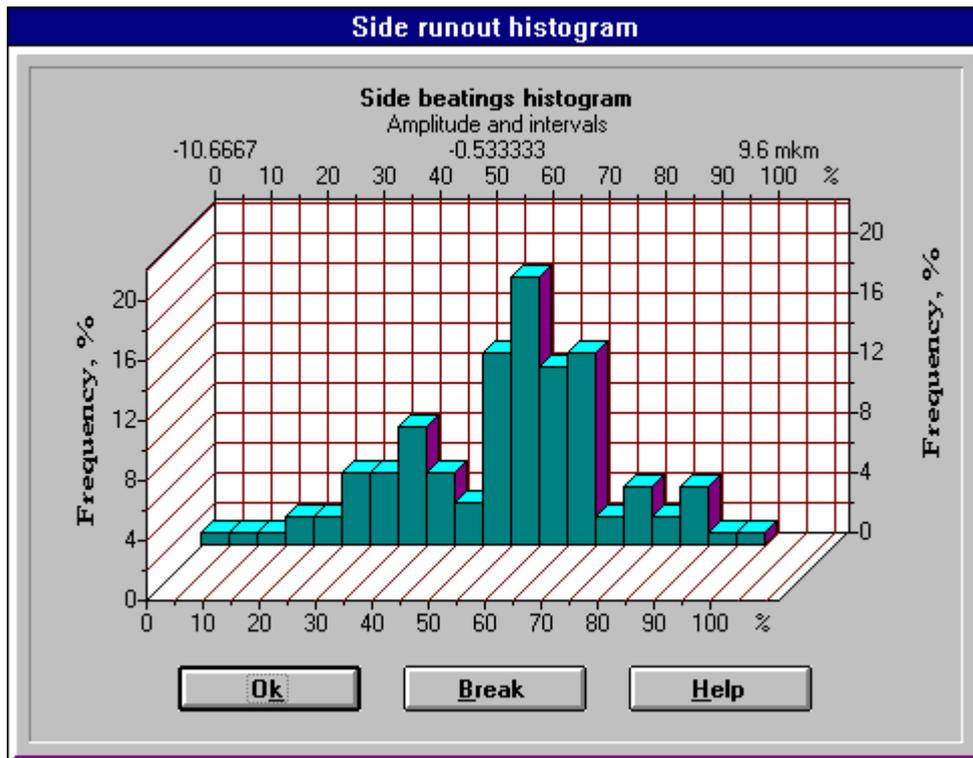

Figure 1.3 The histogram of side beatings of a radial ball bearing
2) **As a histogram.** The histogram is used to demonstrate the features of the distribution of the displacement values. The total range of displacement amplitude is divided into twenty equal intervals and for each interval the percentage of displacements fell within it is computed. See Fig. 1.3 where the histogram of the side displacements for the radial ball bearing is shown.